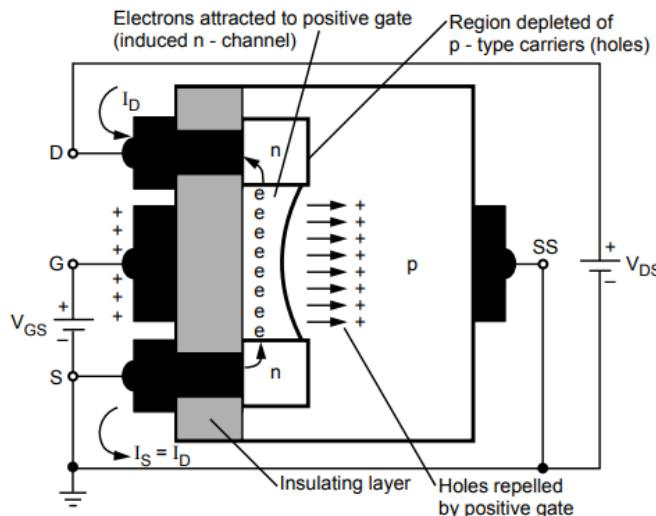

Figure 2.12: Channel formation in the NEMOSFET
- The positive potential at the gate will pressure the holes in the p-substrate along the edge of SiO2 layer to leave the area and enter deeper regions of the p-substrate, as in Figure 2.12.